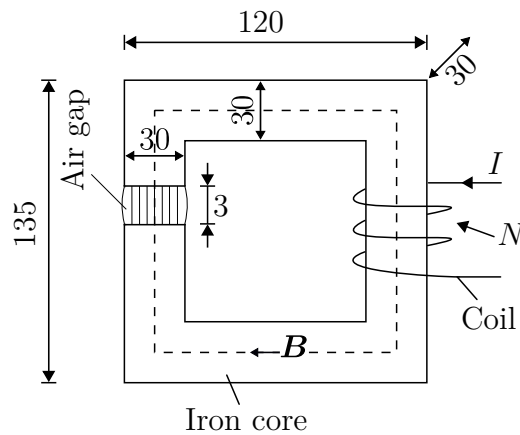

Figure 1: Simplified sketch of a magnetic iron core. All dimensions of the iron core are given in mm.
The iron core consists of thin single metal sheets with a cross-sectional area of $A = 900 \text{ mm}^2$ and with an air gap of $\delta = 3 \text{ mm}$. A simplified sketch is shown in Fig. 1. The material behavior of the selected iron is visualized in Fig. 2. The coil with N turns contains a direct current which results in a homogeneous magnetic flux density of $B_\delta = 1.8 \text{ T}$ in the air gap.
1.2 How big is the magnetic flux density B_{Fe} in the iron core at the dotted line in Fig. 1? Neglect the leakage flux.